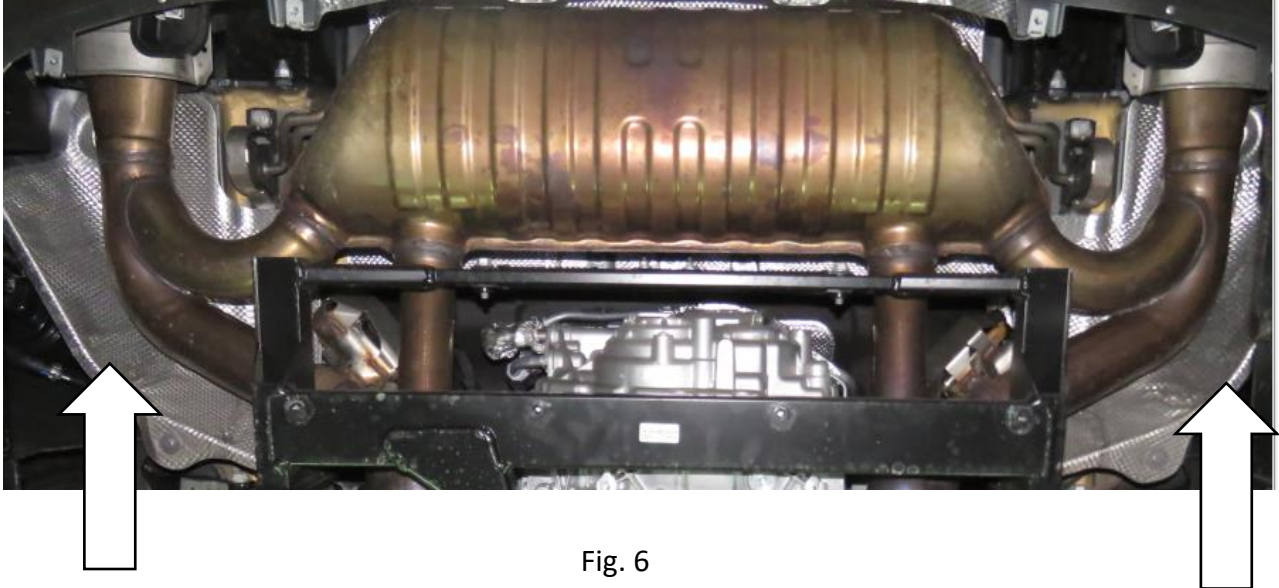

Fig. 6
7. Remove the both heat shields. (Fig 6)